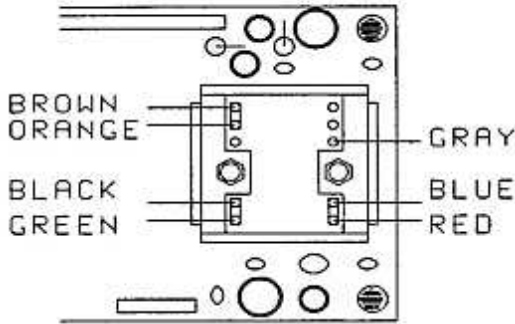

FIGURE 4
12. Insert the wires from the new audio amplifier circuit board as shown in the diagram. Make sure the pins are firmly seated and then solder them into place. Figure 4